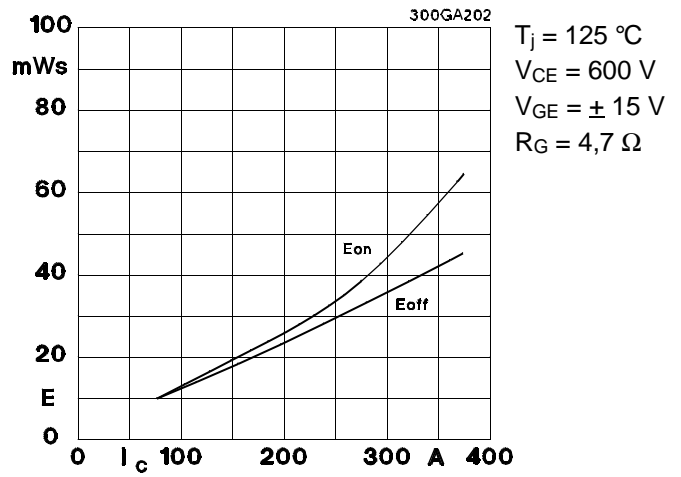

Fig. 2 Turn-on /-off energy  $= f(I_C)$
5) See fig. 2 + 3; RGoff = 4,7 Ω